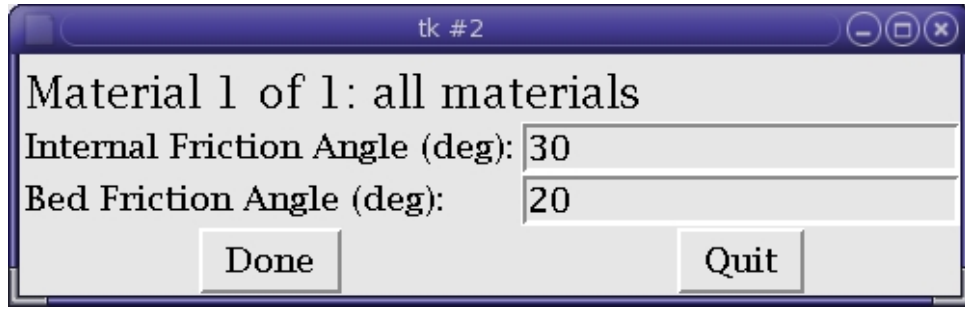

Figure 3.5: Pop-up window for entering friction angles
- The **Run** button produces the starting files found within the simulation directory. When this button is selected, a new window appears (figure 3.5), in which the user specifies the two friction angles (see section below). The **Quit**
- The next two parameters, the **Internal Friction Angle** and the **Bed Friction Angle** set the resistive frictional forces that occur within a material being simulated and between that material and the basal surface. The *internal friction angle* corresponds to friction arising from particle-particle interactions within the flowing material and is equivalent to the natural slope of the free-surface that would form if a cylindrical pile of the granular material were placed on a flat plane and allowed to collapse under its own weight. The *bed friction angle* corresponds to the friction that develops due to particle-ground interactions. This value is equivalent to the minimum slope that an inclined surface must obtain before the material placed on it begins to slide from its static position. Enter the appropriate values into the pop-up window that appears (see figure 3.5). When finished, click on “done” then “quit”.